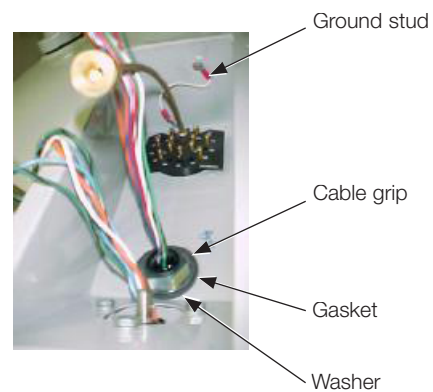

Figure 3.
7. Using a 1 1/4" wrench, remove the cable grip nut inside the junction box. Refer to Figure 3.
There are two procedures for installing the junction box quick-disconnection cable assembly. Refer to Figure 3.
1. Locate gasket (Item 11) and remove adhesive protective backing on one of the gaskets. Place the gasket around the cable entrance hole with the adhesive side down on the inside of the junction box. Refer to Figure 3.
4. Place washer (Item 10) over the cable assembly leads and down against the gasket. Refer to Figure 3.
5. Place nut (Item 9) over the cable assembly leads and start the nut on to the threads. Using a 1 1/4" open-end wrench, tighten the nut down until snug. Refer to Figure 3.